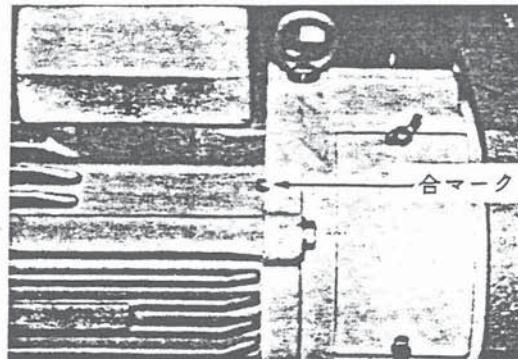

Fig. 8-11
- b) Reassemble the commutator side shield with frame. (Fig. 8-11)